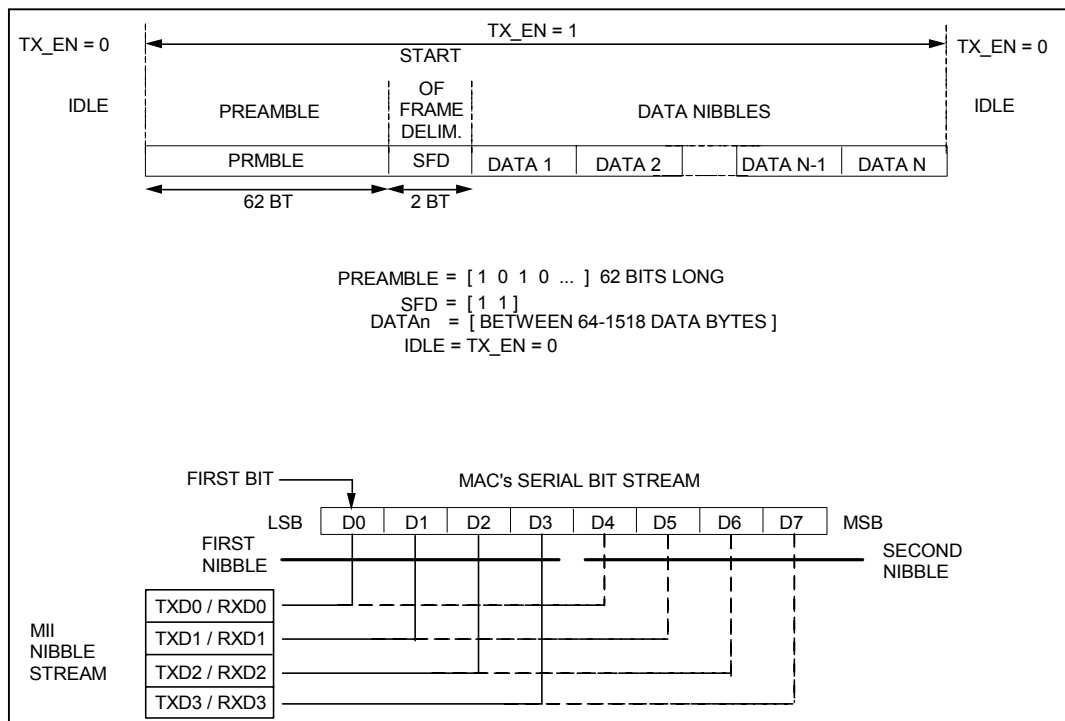

FIGURE 7 - MII FRAME FORMAT & MII NIBBLE ORDER
The MII is a nibble wide packet data interface defined in IEEE 802.3. The LAN91C111 meets all the MII requirements outlined in IEEE 802.3 and shown in FIGURE 7.
Data recovery is performed by latching in data from the TP receiver with the recovered clock extracted by the PLL. The data is then converted from a single bit stream into nibble wide data word according to the format shown in FIGURE 7.
The clock recovery process for 10Mbps mode is identical to the 100Mbps mode except, (1) the recovered clock frequency is 2.5 MHz nibble clock, (2) the PLL is switched from TX25 to the TP input when the squelch indicates valid data, (3) The PLL takes up to 12 transitions (bit times) to lock onto the preamble, so some of the preamble data symbols are lost, but the dock recovery block recovers enough preamble symbols to pass at least 6 nibbles of preamble to the receive controller interface as shown in FIGURE 7.